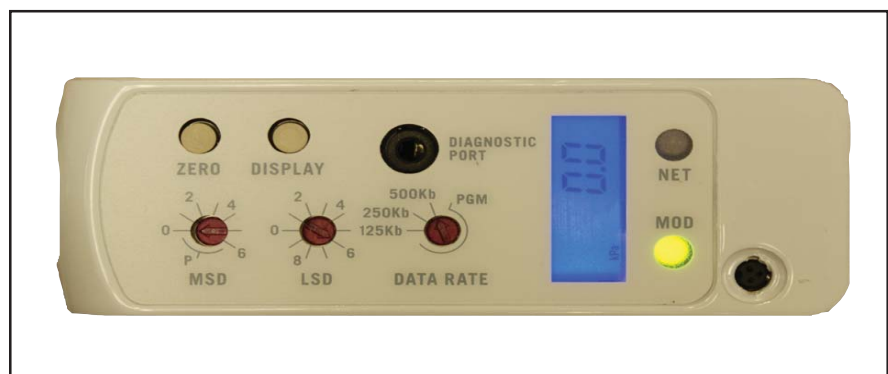

Figure 5-4 % Flow Display Set to Zero
3. Press and hold down the Zero button for a minimum of 5 seconds or until the "%FS" display reads 0.0 as shown in Figure 5.4. The %FS label will flash during this procedure.